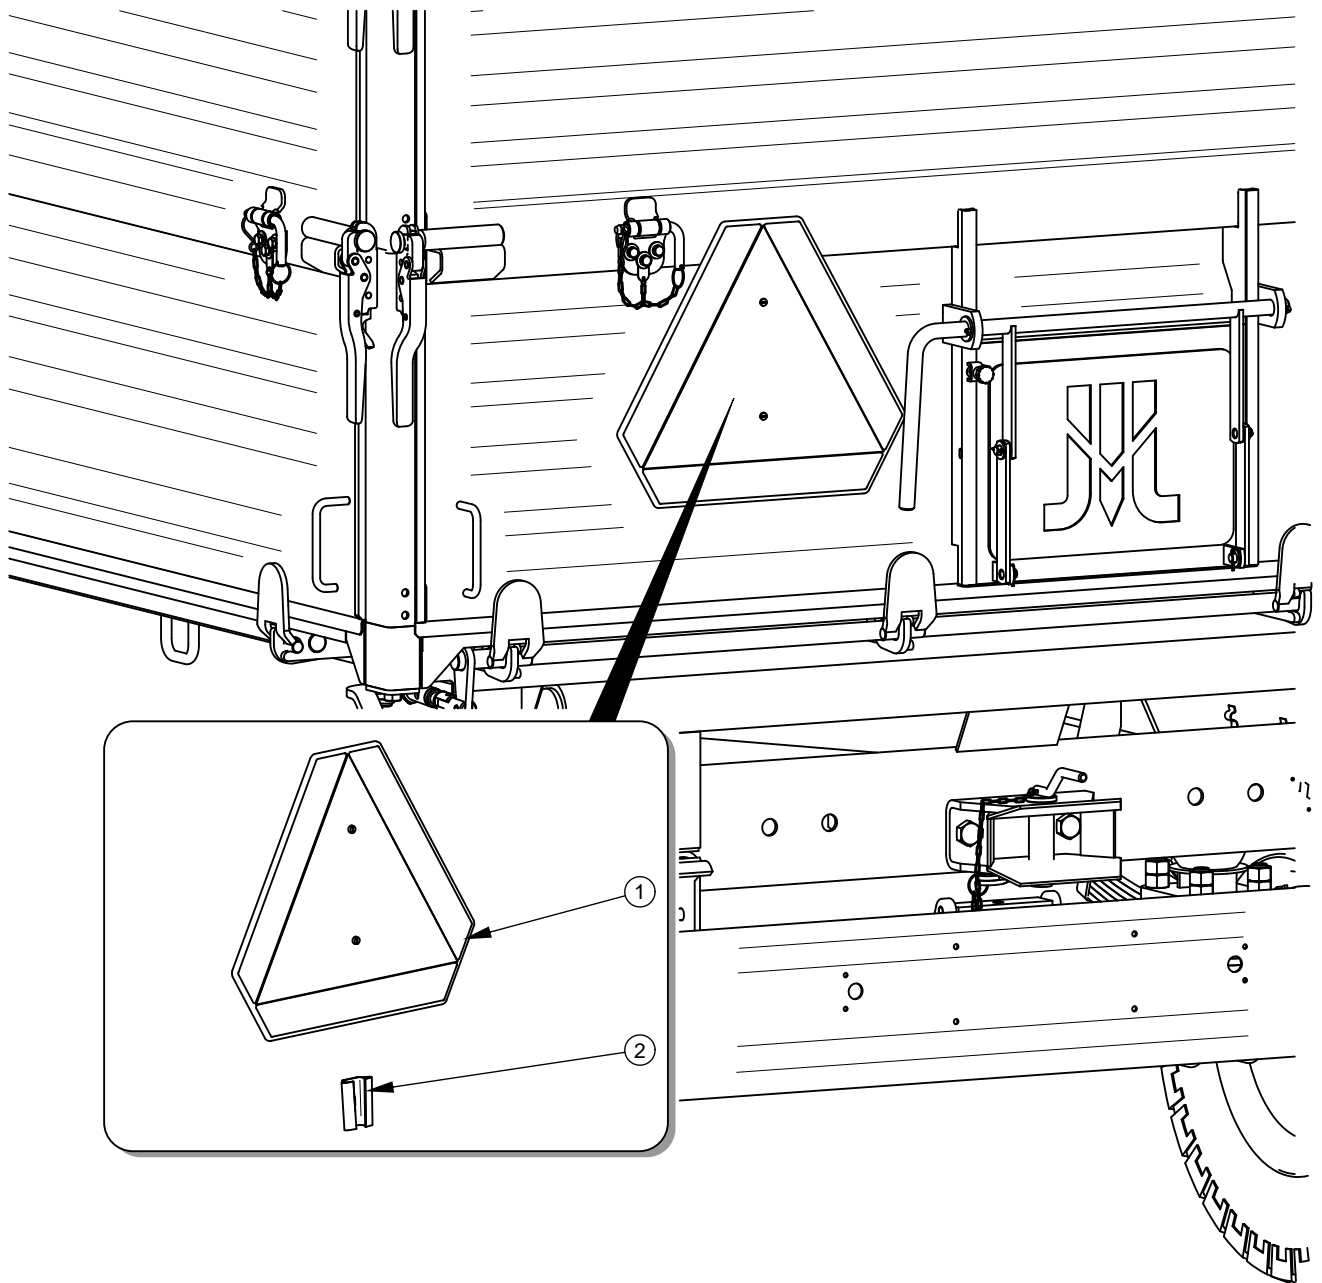

FIGURE 2.2 Mounting place for slow-moving vehicle sign
(1) warning sign, (2) attachment point
- If the trailer is the last vehicle in the group, a slow-moving vehicle sign should be placed on the trailer's rear load box wall – (figure 2.2). The warning sign (1)